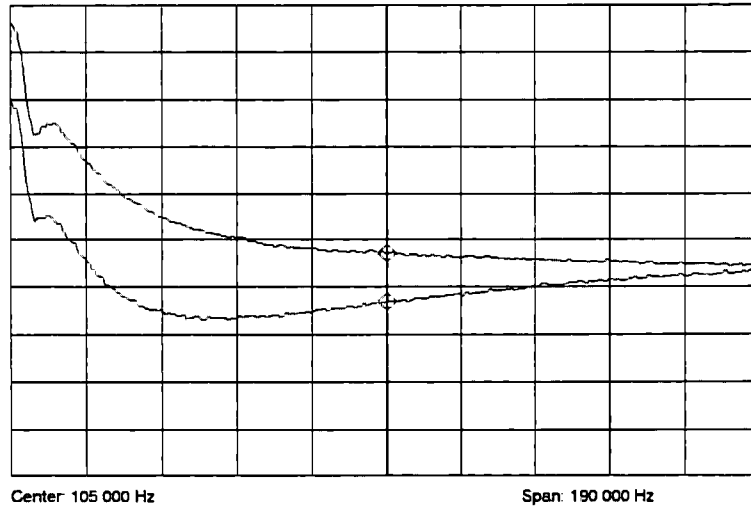

Figure 5-16. 1 Meg Ohm Flatness Adjustment
9. Using the small adjustment tool in the service kit, adjust A11 C423 through a hole in the shield can so the displayed waveforms are as close as possible without the ends crossing, especially at the upper frequency limit (see figure 5-16).
11. Using the small adjustment tool in the service kit, adjust A11 C421 through a hole in the shield can so the displayed waveforms are as close as possible without the ends crossing, especially at the upper frequency limit (see figure 5-16).
13. Using the small adjustment tool in the service kit, adjust A11 C413 through a hole in the shield can so the displayed waveforms are as close as possible without the ends crossing, especially at the upper frequency limit (see figure 5-16).